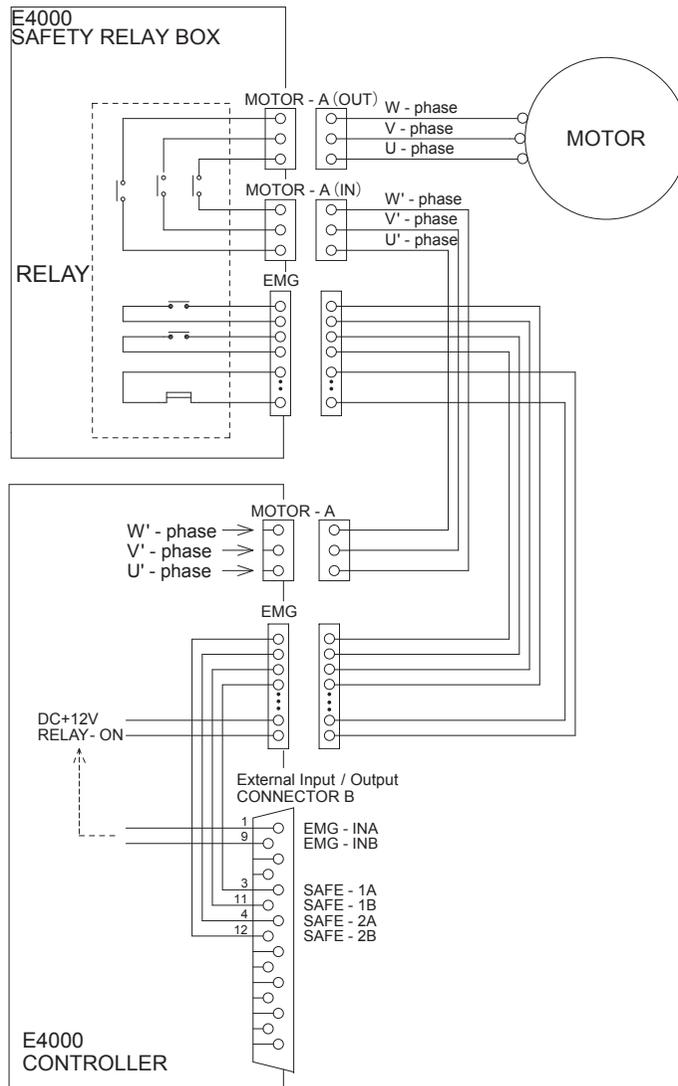

Fig. 36
③ Safety Relay Signal (Pin No. 3 - No. 11, No. 4 - No. 12)
- If the (NO) Normally Open contacts of the Safety Relay are welded together by an over load or short circuit the (NC) Normally Closed contacts separation are maintained with more than 0.5mm spacing by the relay's recoil mechanism.
- Applied Voltage (V) \leq DC+30V
- Refer to Fig. 36 for the connection diagram.